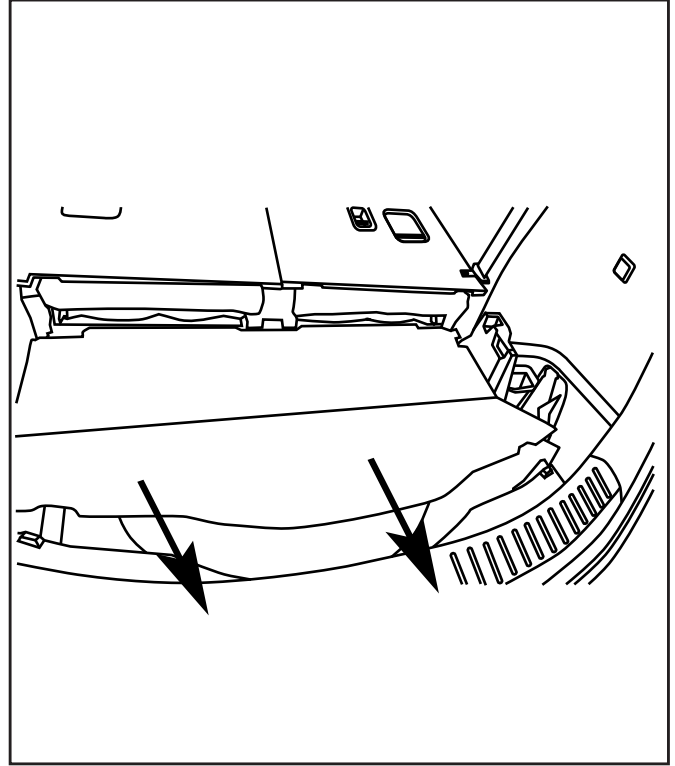

Fig. 9
10. Remove the trunk floor (Fig. 9).